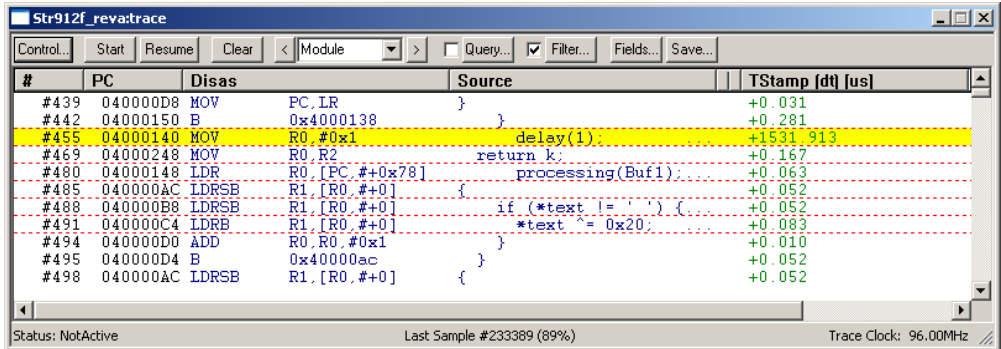

FIGURE 103 Trace with the delay function filtered out.
14. To eliminate any function from the trace, use the **Start/Stop Tracing on Address** feature. Also, it is necessary to enter the function's exit address in the trace **Begin** field and the function's entry point in the trace **End** field. Figure 103 shows an example with the delay functions filtered out, allowing the trace to capture over 622 msec of the run time.